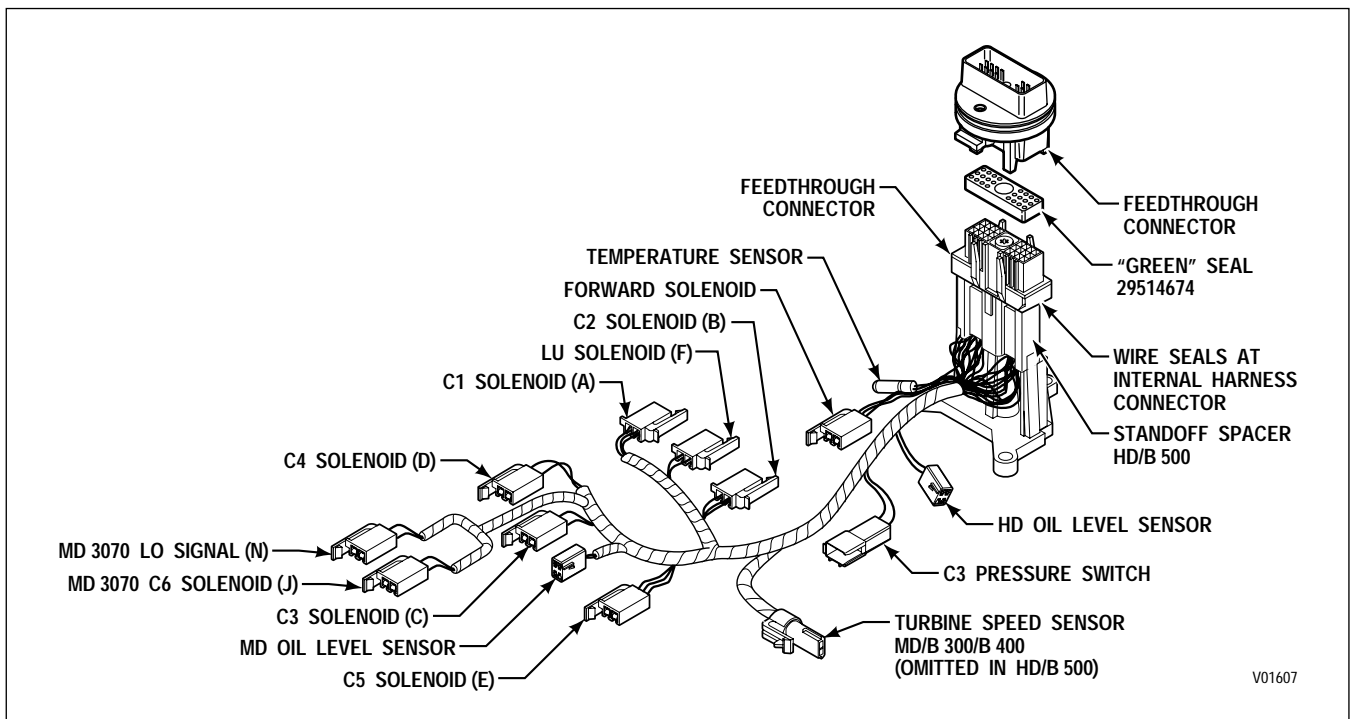

Figure 4-3. Feedthrough Connector, "Green Seal," And Internal Harness
- d. Replace the feedthrough connector and internal harness with wire seals (Figure 4-3).